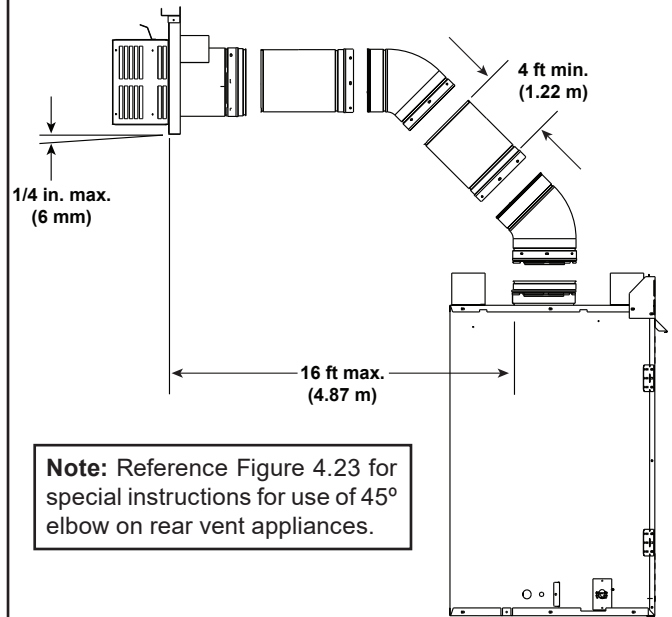

Figure 4.8
To replace the first starter elbow with two 45° elbows, refer to Figure 4.8. All other 90° elbows can be replaced with two 45° elbows.
- It is recommended that the horizontal termination cap have a 1/4 inch downward slant to allow any moisture in cap to be released. See Figure 4.8.